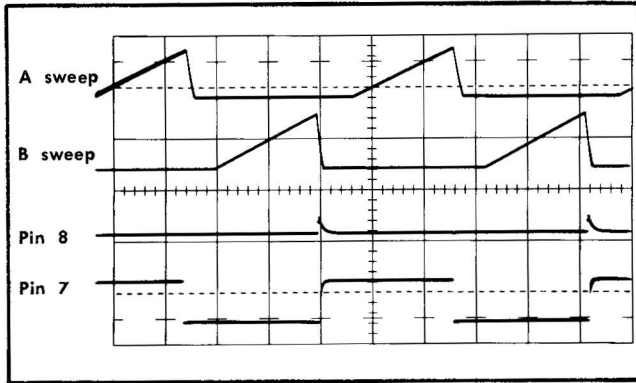

Fig. 4-2. The time relationship between the alternate-sweep slave pulse, alternate-trace sync pulse and the alternate sweeps of a Type 547 Oscilloscope.
When the plug-in unit is used with an oscilloscope that has alternate sweep switching, an Alternate Sweep Slave Pulse is coupled into pin 7 of the interconnecting plug. The slave pulse insures that the multivibrator (Q315-Q325) turns on Channel 1 during the Time Base A sweep of the oscilloscope. This, in turn, allows the Channel 1 signal to be displayed on the Time Base A sweep of the oscilloscope and the Channel 2 signal to be displayed on the Main Time Base (B) sweep. See Fig. 4-2 for the relationship of the slaving pulse to the oscilloscope sweep voltages. Note that this capability occurs only in the ALT setting of the MODE switch.